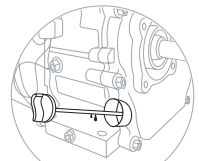

IMAGEN 1
- VERIFIQUE EL NIVEL DE ACEITE DEL MOTOR; **(IMAGEN 1)**